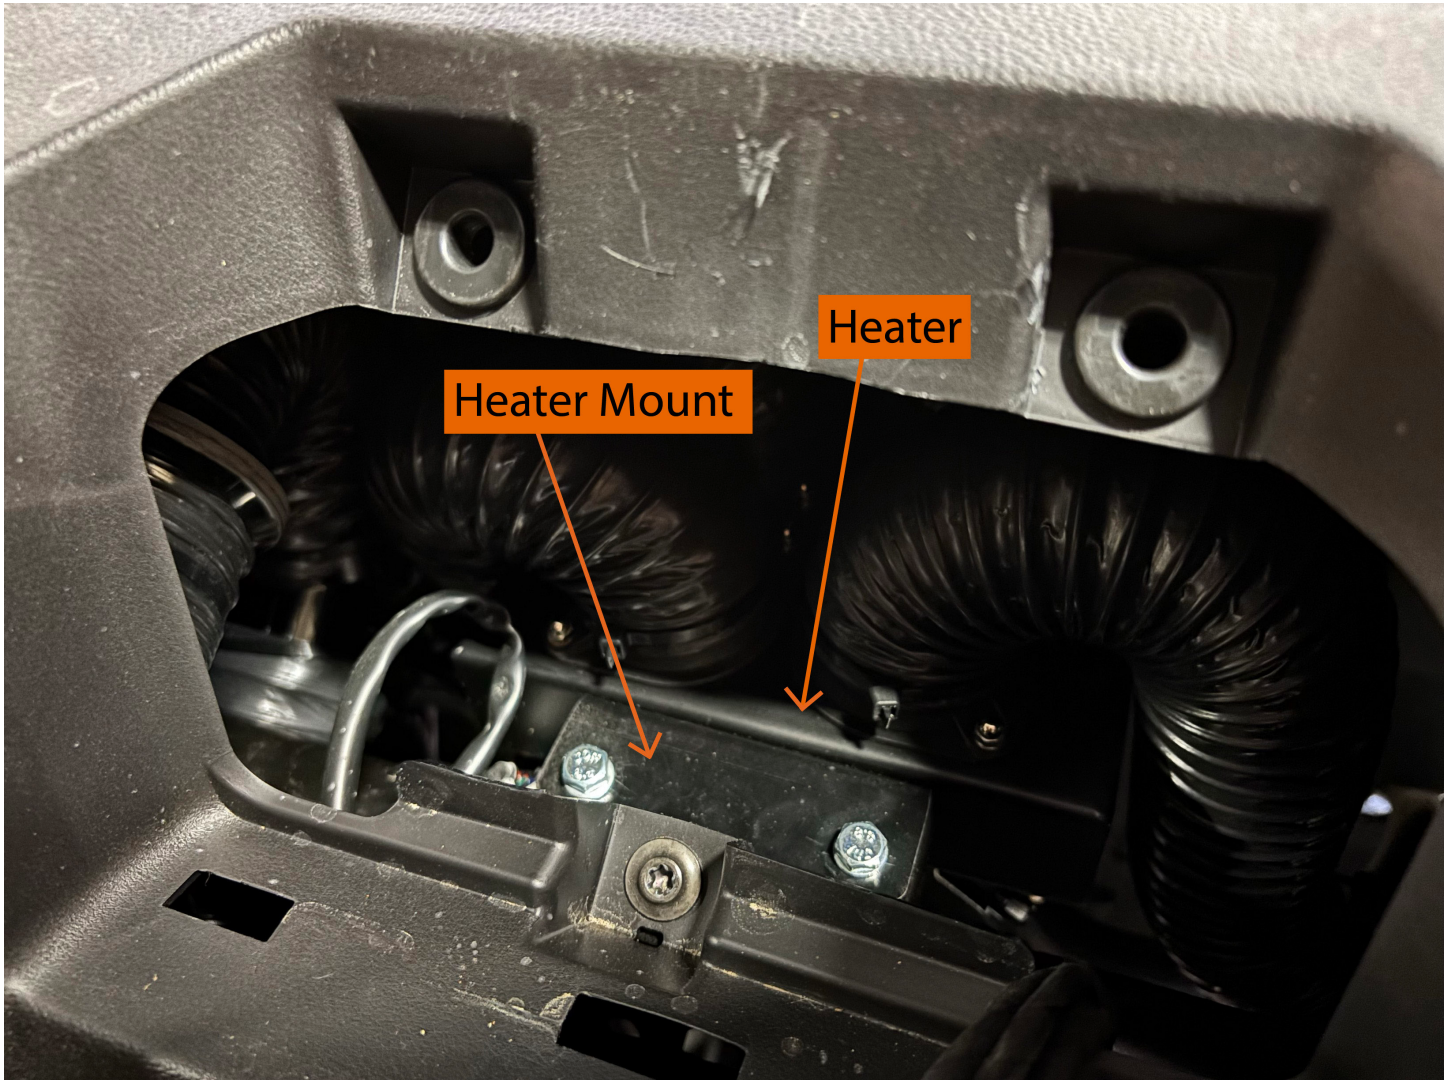

FIGURE 7
20. Connect the heater mount to the machine using the M6 hardware provided. FIGURE 7